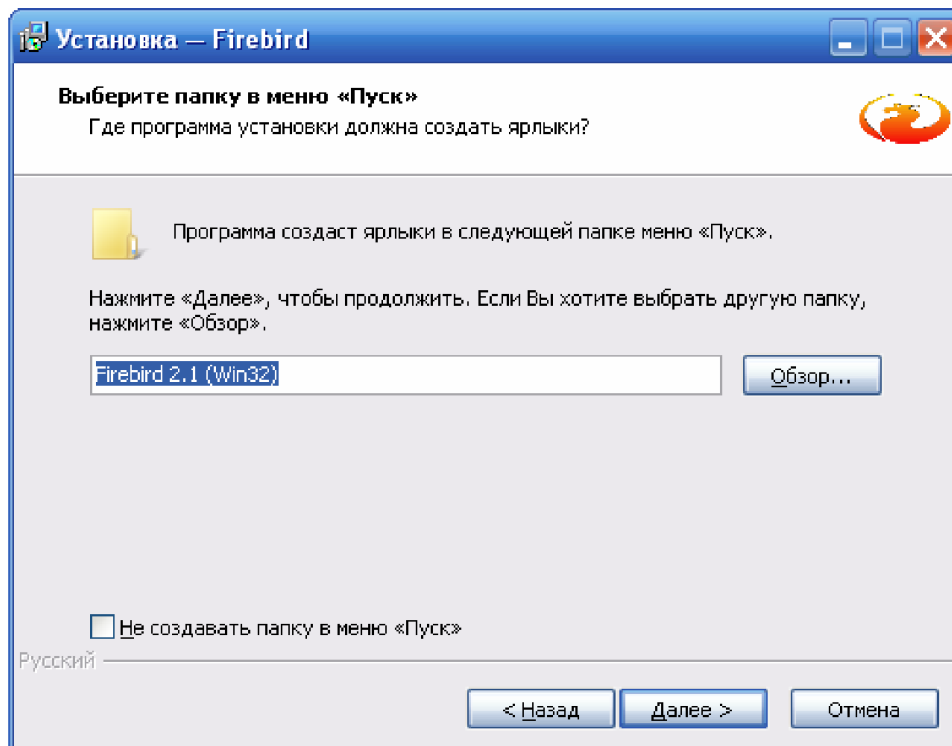

Figure 11. Installing Firebird - step 6.
Step 6 (Figure 11) allows you to select a folder in the Start menu to place the shortcuts. The name suggested by default is perfectly acceptable. Click “Next” to continue.